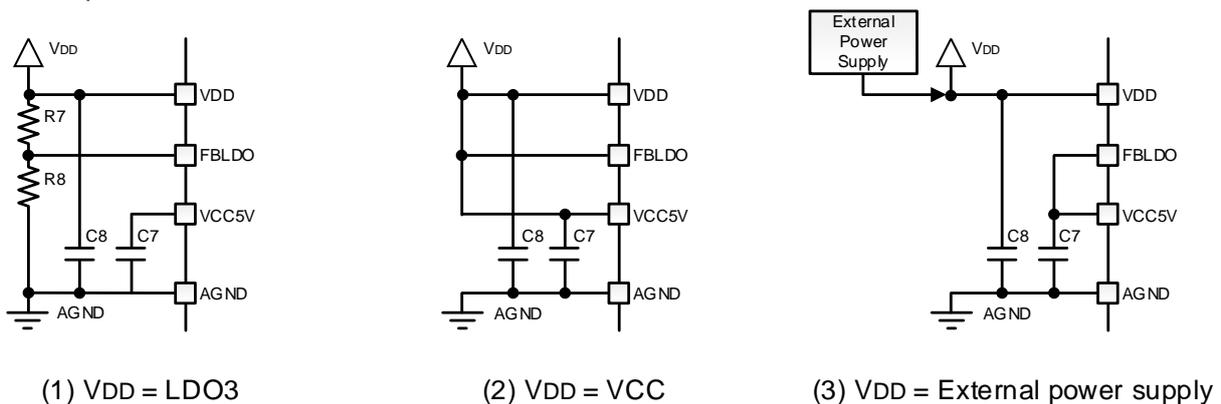

Figure 4-2 VDD Pin Voltage Supply Methods
(1) Supply using LDO3
The external connection and components are shown in **Figure 4-2 (1)**. The LDO3 output voltage VDD is determined by the bleeder resistors (R7, R8) that are fed back to the FBLDO pin, allowing fine adjustment of the output voltage within the recommended operating conditions. The bleeder resistors should be selected based on **EQ 4-1**. Increasing the total value of the bleeder resistor can reduce the current consumption in Sleep Mode. However, note that the stability is reduced by the pole determined by the parasitic capacitance of FBLDO pin and the bleeder resistors.
(2) Supply 5V from the VCC pin
The external connection and components are shown in **Figure 4-2 (2)**. A 0.1 μ F ceramic capacitor is recommended as a decoupling capacitor (C8) for the VDD pin. This capacitor should be placed as close as possible to the VDD and AGND pins.
(3) Supply using an external power supply
The external connection and components are shown in **Figure 4-2 (3)**. Connect an external power supply to the VDD pin. Also, connect the FBLDO pin to the VCC pin. Note that the recommended operating voltage range V_{DDop} for the VDD pin voltage is limited from 3.135 to 5.25V. A 0.1 μ F ceramic capacitor is recommended as the decoupling capacitor (C8) on the VDD pin. This capacitor should be placed as close as possible to the VDD and AGND pins.